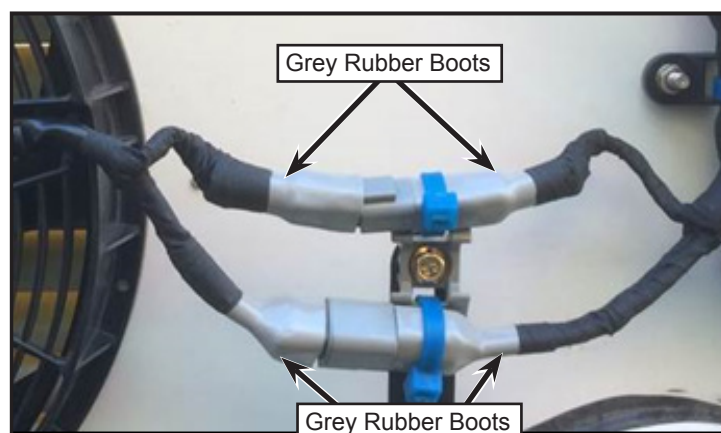

Figure 4 - Removal of Coroplast Tape and Grey Rubber Boots from Both Connector Pairs
- 1.11. Remove the Coroplast tape and grey rubber boots from the Deutsch DTP and DT connectors (see figure 4) and then disconnect both connector pairs.